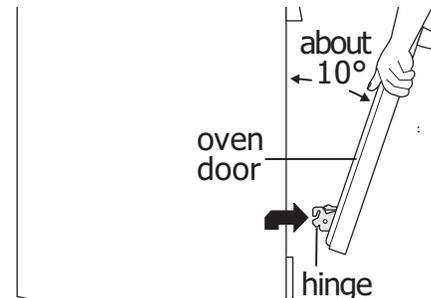

Figure 13: Holding door for removal/replacement
3. Close the door to approximately 10 degrees from the door frame (Figure 13).
4. Firmly grasp both sides of oven door along the door sides. Do not use the oven door handle (Figure 13).
5. Lift the oven door hinge arms over the roller pins located on each side of the oven frame (Figure 13).
1. Firmly grasp both sides of oven door along the door sides. Do not use the oven door handle (Figure 13).
2. Holding the oven door at the same angle as the removal position, seat the hook of the hinge arm over the roller pins located on each side of the oven door frame (Figure 13 and Figure 14). The hook of the hinge arms must be fully seated onto the roller pins.